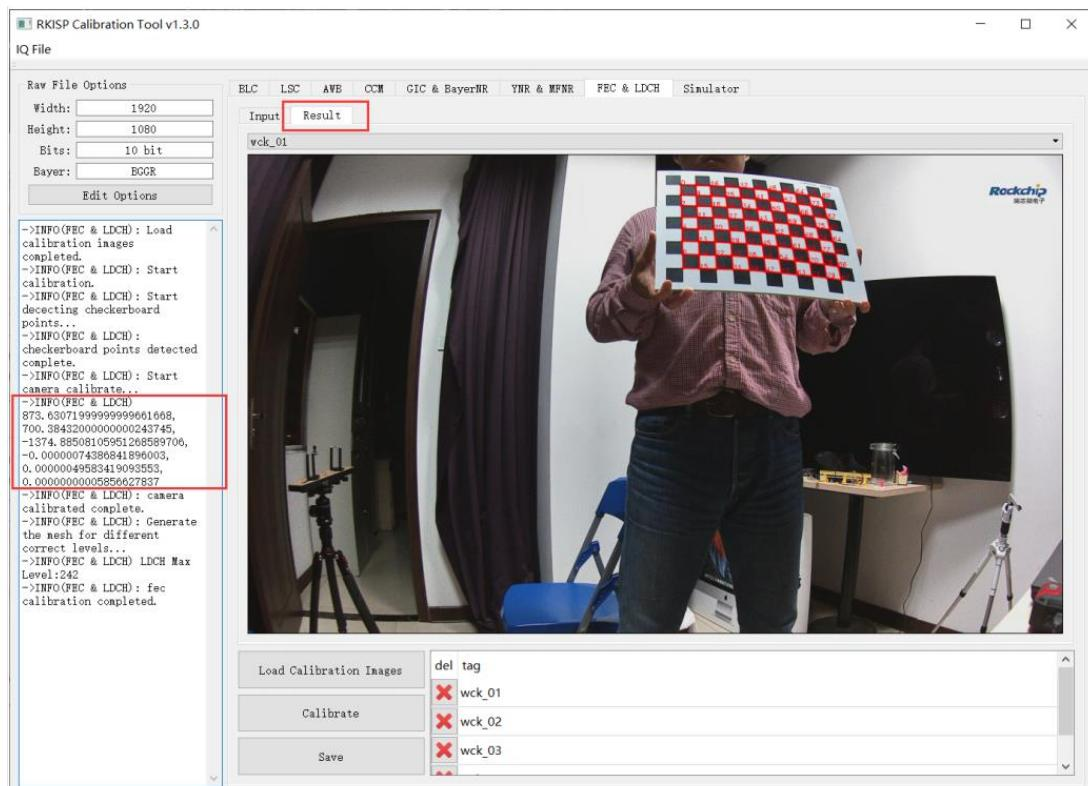

Figure 4-7-3-1
2. If the calibration is successful, the result shown in Figure 4-7-3-1 will appear. We can view the calibrated distortion parameters in the “log” on the left. The meanings of the six parameters from top to bottom are: the center coordinates of the camera (cx , cy), camera distortion parameters (a_0 , a_2 , a_3 , a_4).